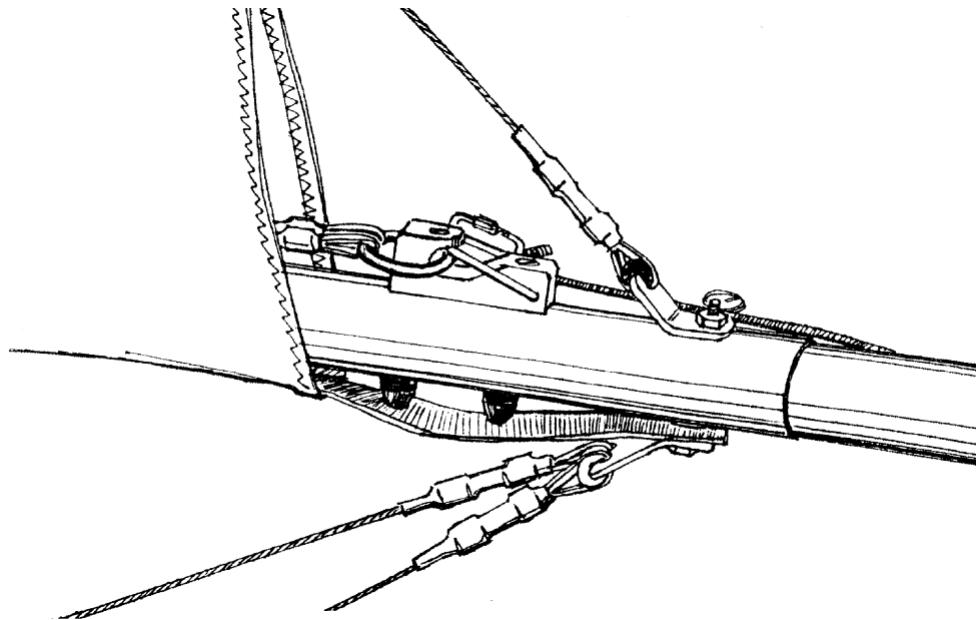

Fig. 27
2.2.9. Pull the crossbar tensioning wires and put the metal ring of the wires on the hook of the stop detail on the keel tube. Take care that reed spring closes the metal ring in the hook (Fig. 27). Effort on the crossbar tensioning wire should not be big.